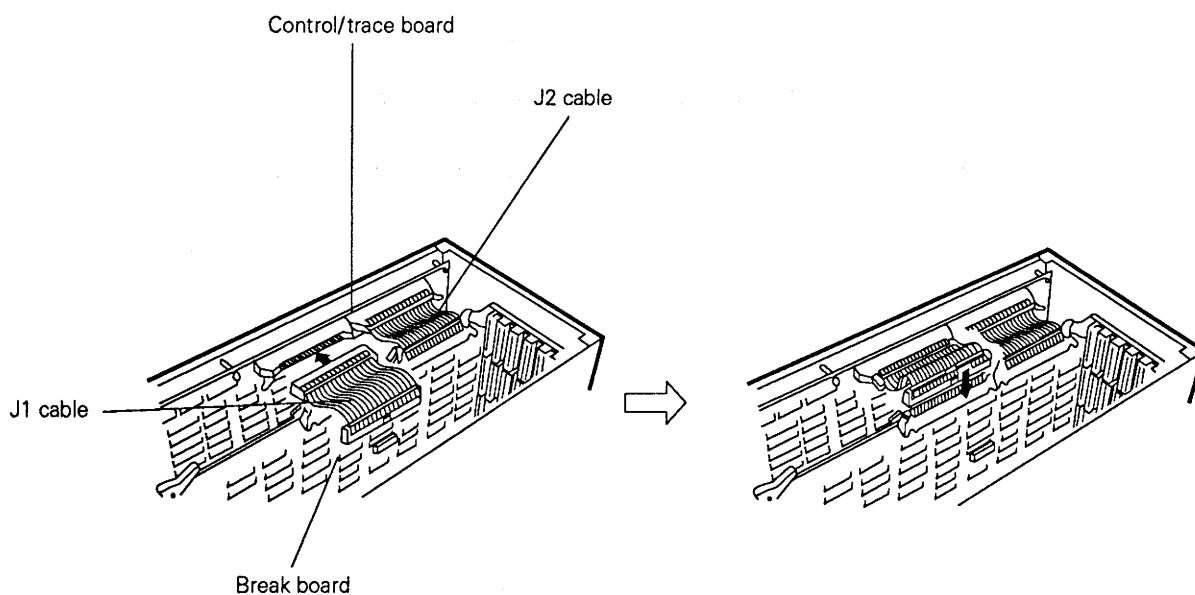

Fig. C-3 Connecting J1 and J2 Cables
- ① Remove the six screws from the IE-78240-R-A top cover and remove the cover.
- ② Disconnect cables J1 and J2, which connect the break board and control/trace board.
- ③ Pull the card pullers at both sides of the boards toward you to remove all the PC boards from the slot.
- ④ Remove the four screws on the side of the unit, then remove the side cover.
- ⑤ Remove the screws holding the control/trace board to the unit, then remove the board.
- ⑥ Connect J1 and J2 cables, as illustrated in Fig. C-3.